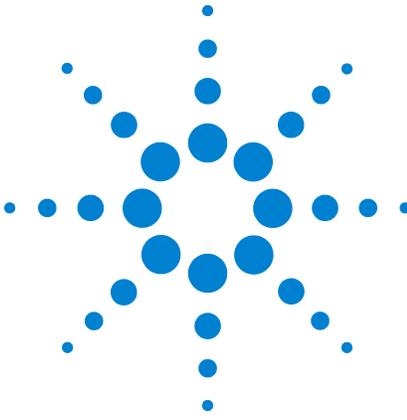

Figure 16 Connecting the power connector on the inside of the Quiet Cover MS
- **Power connector.** Insert the red **24+** wire into pin 2 and the black **24-** wire into pin 3 of the power connector on the inside back of the Quiet Cover MS (see Figure 16).